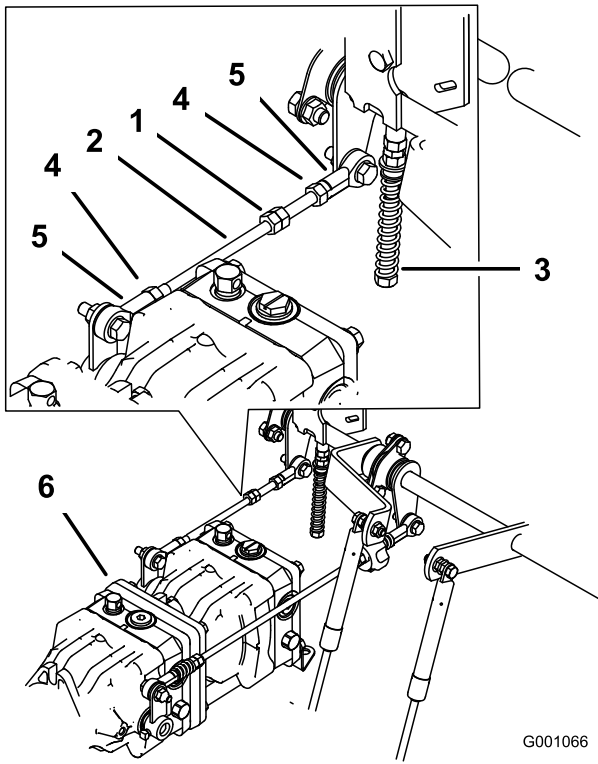

Figure 79
1. Loosen the locknuts at the ball joints on the pump control rod (Figure 79).
3. Adjust the pump rod length by rotating double nuts on rod, in the appropriate direction, until wheel is still or slightly creeps in reverse (Figure 79).
6. Tighten the locknuts at the ball joints (Figure 79).